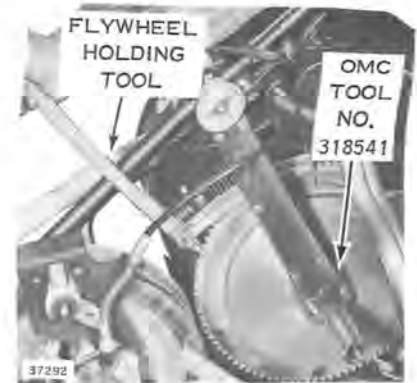

Figure 10-16
3. Hold the eccentric shaft with holding tool or spline wrench and torque flywheel nut with torque wrench and OMC Tool No. 318541 as shown in Figure 10-16. Adjusted torque reading with special tool used in this manner is 75-93 ft. lbs. Use Loctite Retaining Compound #40.